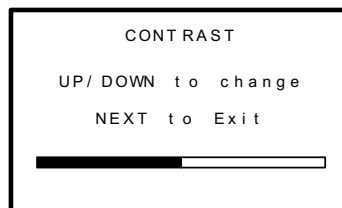

Figure 3-13 LCD Contrast Adjust
**LCD Contrast Adj.** may be set for optimum viewing using the menu shown in Figure 3-13. Swipe the UP/DOWN keys to adjust the contrast and NEXT to save the changes.